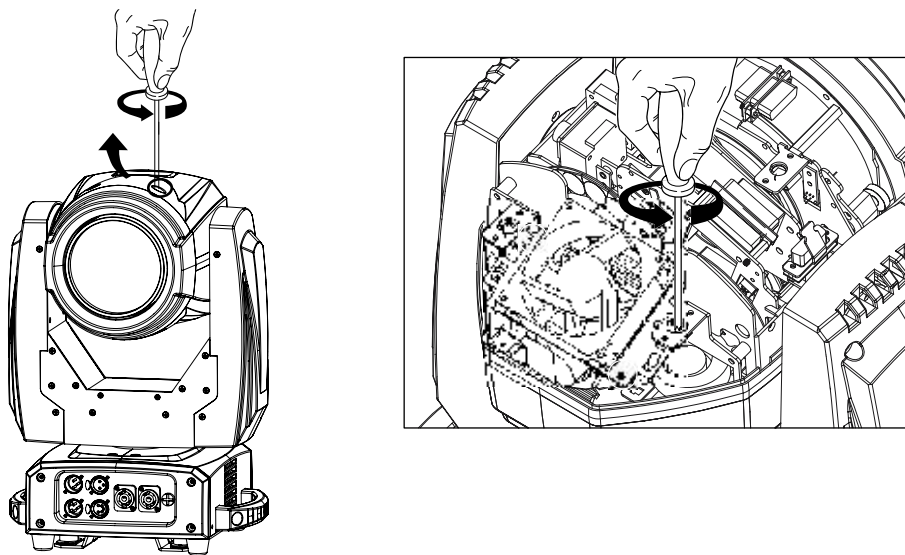

Fig.3
1. Disconnect the power plug the unit. Use 1/4 Turn to loosen the screws and open the cover; then take out the fan as shown in figure 3.